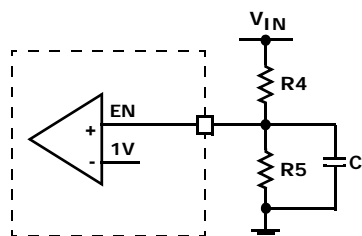

FIGURE 38. EXTERNAL RESISTOR DIVIDER
When the input voltage is below the undervoltage lock-out (UVLO) threshold, the regulator is disabled. To adjust the voltage level of power on and UVLO, use a resistive divider across EN. The input voltage programming resistor R_4 will depend on the bottom resistor R_5 , as referred to in Figure 38. The value of R_5 is typically between 10kΩ and 100kΩ.
The enable (EN) input allows the user to control the turning on or off the regulator for purposes such as power-up sequencing. When the regulator is enabled, there is typically a 600μs delay for waking up the bandgap reference and then the soft-start-up begins. It is recommended that the EN voltage should be kept logic low (less than 400mV), until V_{IN} reaches 2.5V. Refer to Figures 38 and 39 for suggested circuit implementation with V_{IN} slew rate.